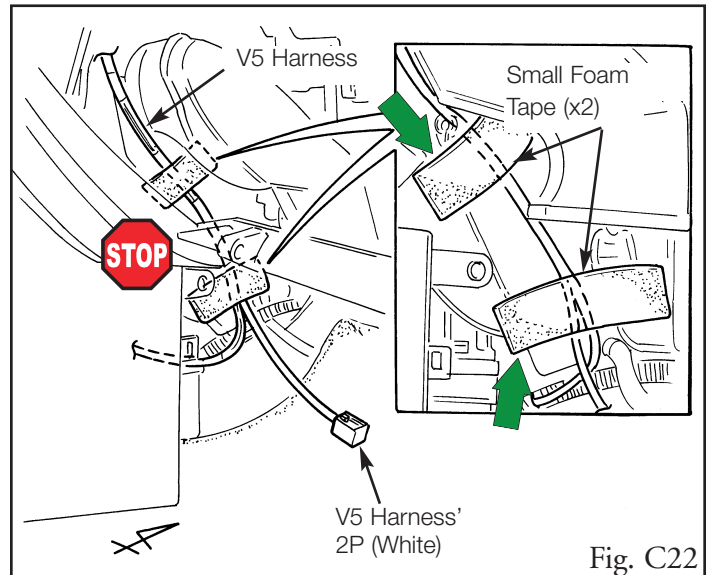

Fig. C22
27. Route the V5 harness up toward the instrument panel, then secure it to the passenger side heater unit with two small strips of foam tapes. (Fig. C22)